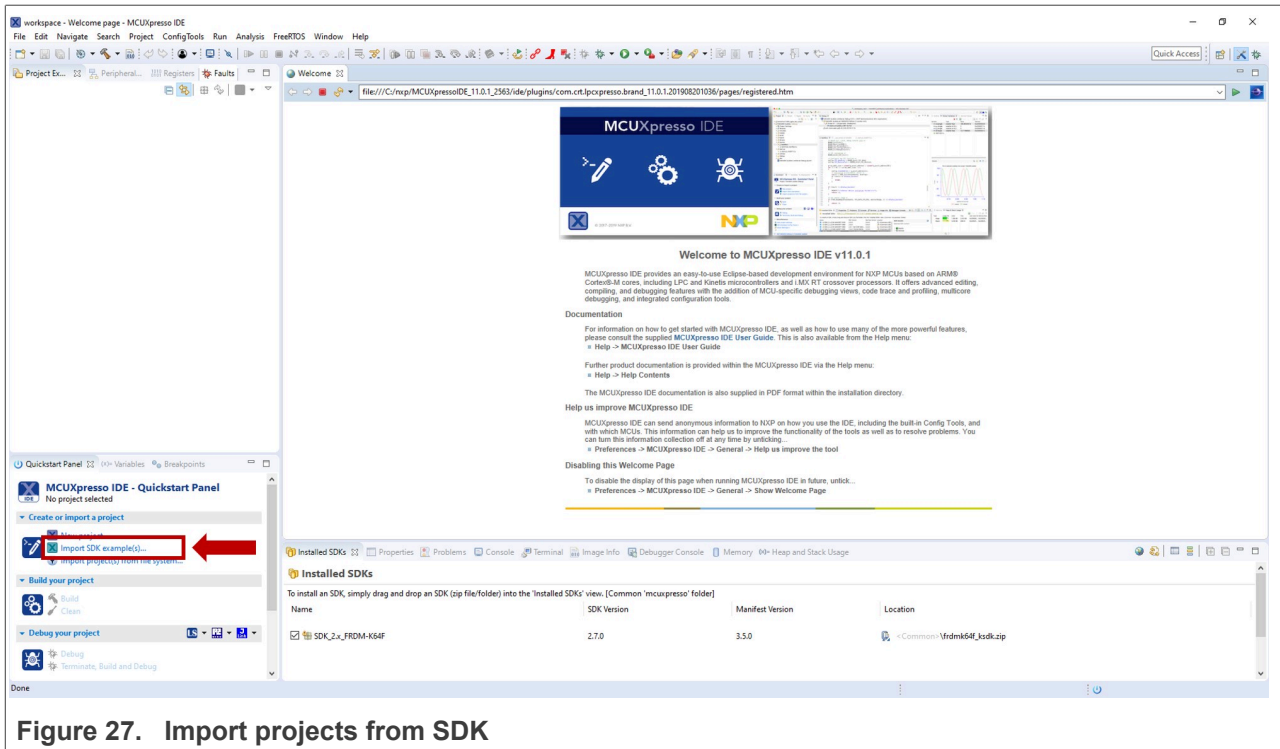

Figure 27. Import projects from SDK
1. Click *Import SDK examples* from file system in the MCUXpresso IDE quick start panel as shown in Figure 27